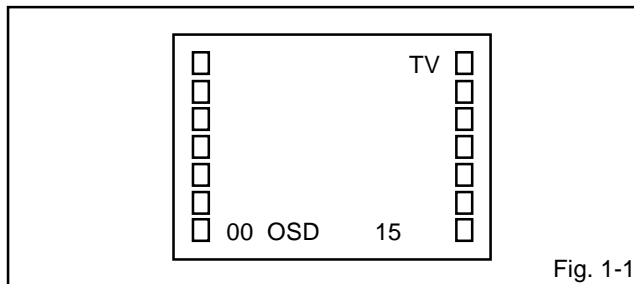

Fig. 1-1
2. Press the VOL. DOWN button on the set and the Channel button (**9**) on the remote control simultaneously to appear the adjustment mode on the screen as shown in **Fig. 1-1**.
3. Activate the adjustment mode display of **Fig. 1-1** and press the channel button (**03**) on the remote control to select "VIF VCO".
3. Activate the adjustment mode display of **Fig. 1-1** and press the channel button (**02**) on the remote control to select "RF DELAY".
4. Activate the adjustment mode display of **Fig. 1-1** and press the channel button (**01**) on the remote control to select "CUT OFF".
4. Activate the adjustment mode display of **Fig. 1-1** and press the channel button (**10**) on the remote control to select "R.BIAS".
3. Activate the adjustment mode display of **Fig. 1-1** and press the channel button (**13**) on the remote control to select "BRIGHTNESS".
2. Activate the adjustment mode display of **Fig. 1-1** and press the channel button (**05**) on the remote control to select "H PHASE".
3. Activate the adjustment mode display of **Fig. 1-1** and press the channel button (**07**) on the remote control to select "V SHIFT".
2. Activate the adjustment mode display of **Fig. 1-1** and press the channel button (**06**) on the remote control to select "V SIZE".
1. Activate the adjustment mode display of **Fig. 1-1** and press the channel button (**14**) on the remote control to select "CONTRAST".